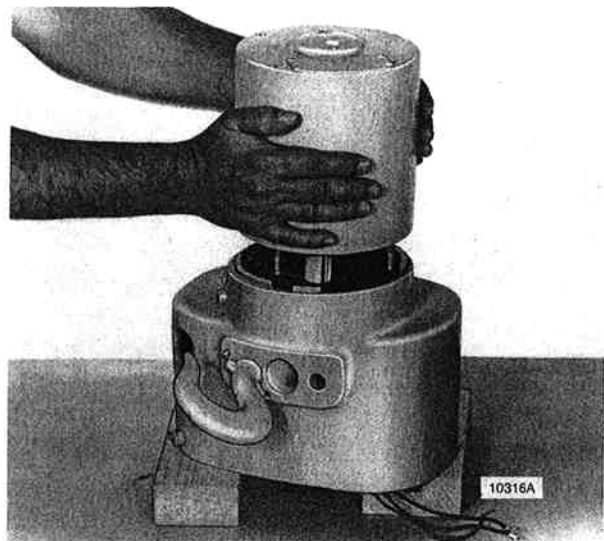

Figure 7-9. Removing Motor Assembly.
(1) Place hoist frame on wood blocks to protect intergral gear on motor shaft. Loosen four motor mounting bolts and lift motor assembly from frame (fig. 7-9). Guide motor leads through wire passage to avoid damage.